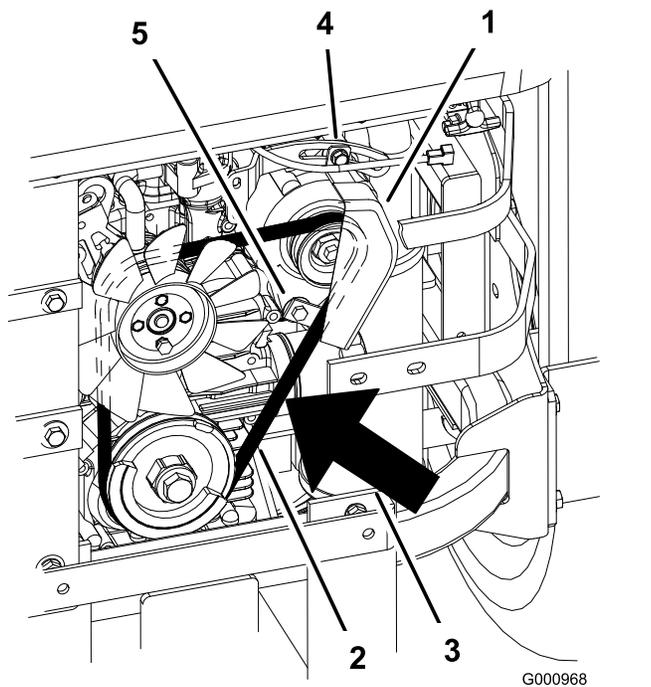

Figure 95
2. Adjust the alternator to the outside until there is 7 to 9 mm (1/4 to 11/32 inch) deflection in the belt between the engine and the alternator pulleys with 10 kgf (22.1 lb of force) (Figure 95).
5. If the deflection is correct, tighten the bottom and upper bolt (Figure 95).